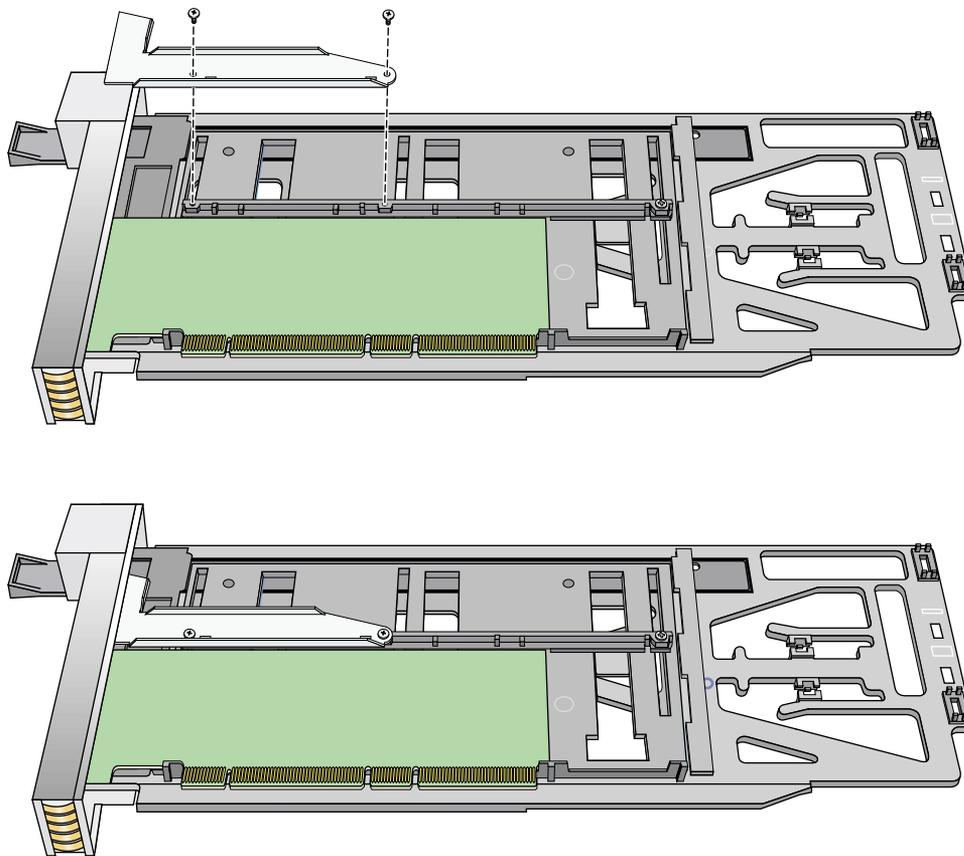

Figure 14-7 Installing Bracket to Secure Half-height Card
- e. Place the PCI card bracket so that the screw holes of the bracket align with the empty screw holes of the carrier guide bar, as shown in Figure 14-7.